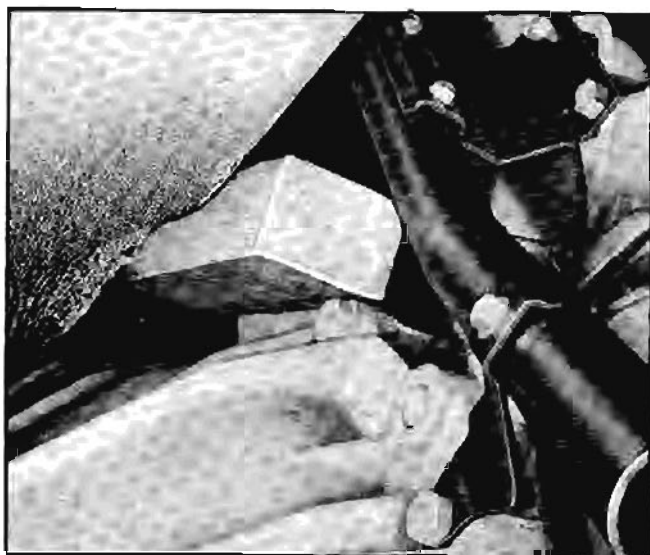

Fig. 6-14 Wooden Block Positioned on Engine
14. Position wooden block at rear of engine (Fig. 6-14) to prevent damage to distributor if engine rocks to the rear. Disconnect propeller shaft and torque tube from rear of engine by following first 11 steps of removal procedure given in Section 4.